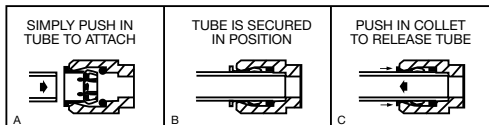
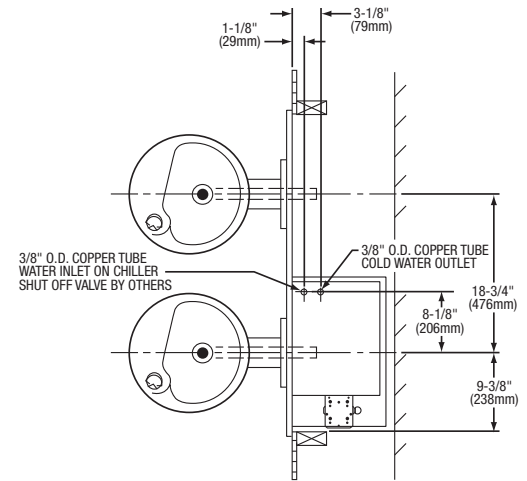

FIG. 1
FIG. 2
1. Cut a square rectangular wall opening 37-1/2" (953mm) W x 37-3/4" (959mm) H and 4-1/2" (114mm) above the floor line. These dimensions are required to obtain proper rim and bubbler heights for compliance with ANSI standard A117.1. (See Figure 2)
NOTE: Building construction must allow for adequate air flow on both sides and top of remote chiller unit. Minimum of 4" (102mm) is required. (See Figures 1 & 2)
3. Install plumbing and electrical rough-ins. See Figure 1 for location of the supply water inlet to chiller and for the location of the waste water outlet. A junction box for a (3) wire, 10 amp branch circuit is provided on the inside of the chiller. (Standard 120 Volts, 60 Hz and single phase) See Figure 2 for the electrical inlet location.
6. Attach the chiller shelf support rods to the right side frame uprights at the second set of holes counting from the bottom and to the shelf at the (2) side holes. Line up the other shelf holes with the frame bottom holes and fasten the assembly to the wall using appropriately sized wood screws or bolts and nuts (not provided). (See Figure 2)